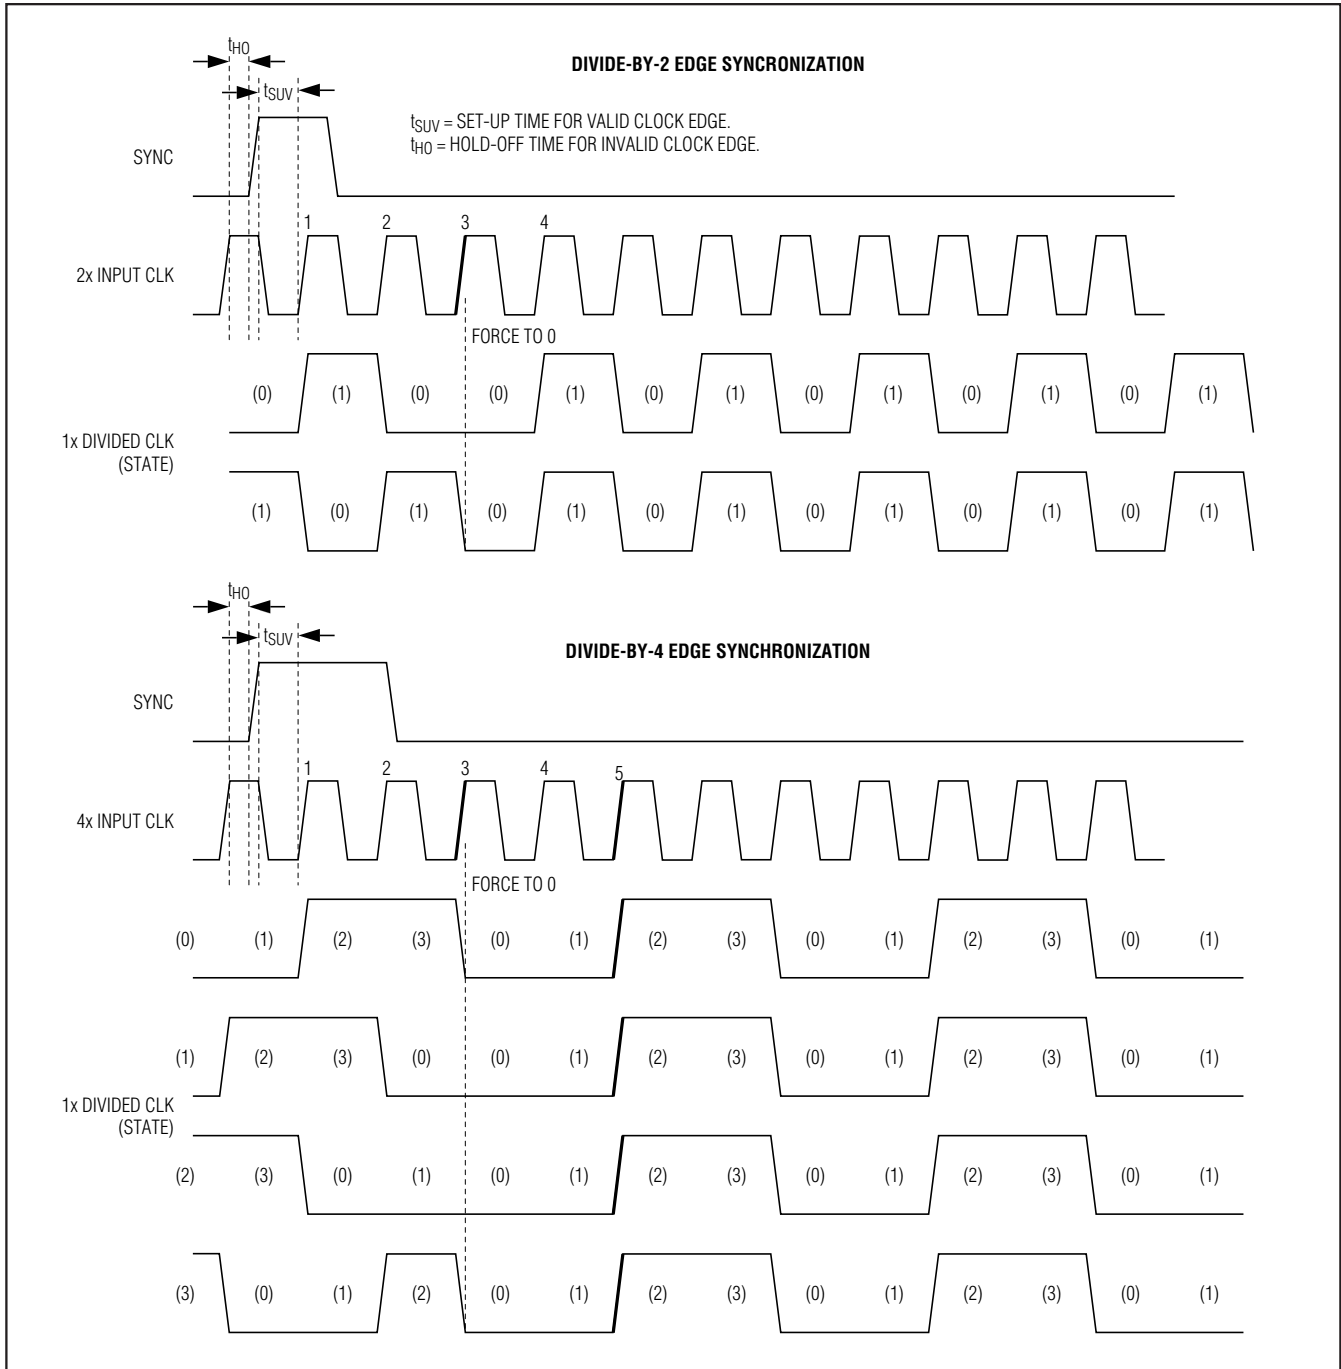

Figure 12. Edge Synchronization Mode
1 = Edge mode (Figure 12)
**Edge Synchronization Mode, SYNC\_MODE = 1:** On the third rising edge of the input clock (CLK) after the rising edge of SYNC (provided set-up and hold times are met), the divided output is forced to state 0. A divided clock rising edge occurs on the fourth ( $/2$  mode) or fifth ( $/4$  mode) rising edge of CLK, after a valid rising edge of SYNC (Figure 12).